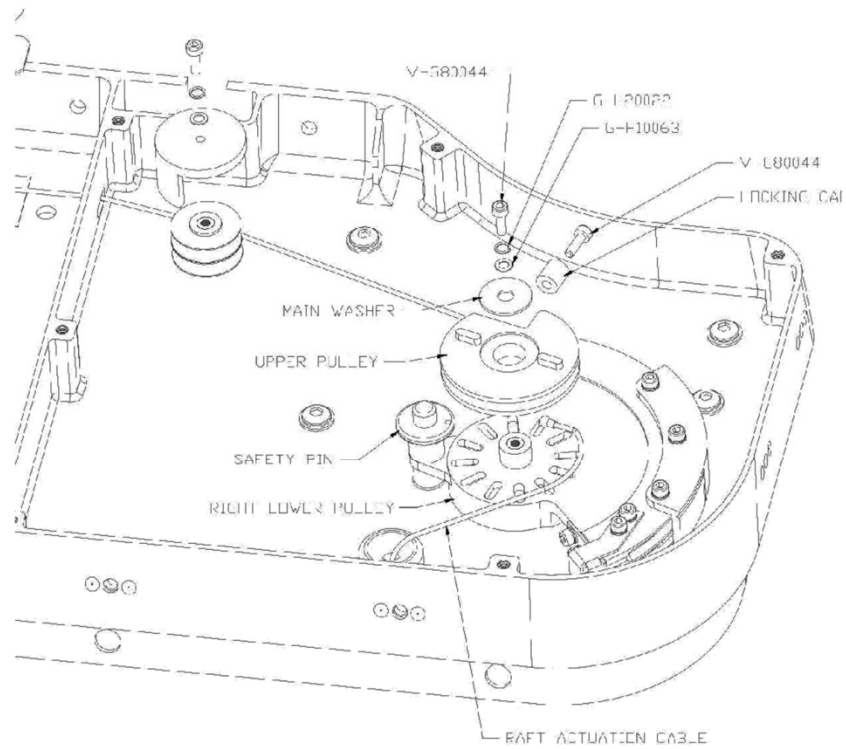

Figure 4 – Upper Pulley disassembly / assembly
- (c) Remove the Main Washer P/N 309773A from the Upper Pulley P/N 309774A unscrewing the screws P/N V-G80044, with the grower P/N G-H20022 and the washers P/N G-H10063, ref. to Figure 4.